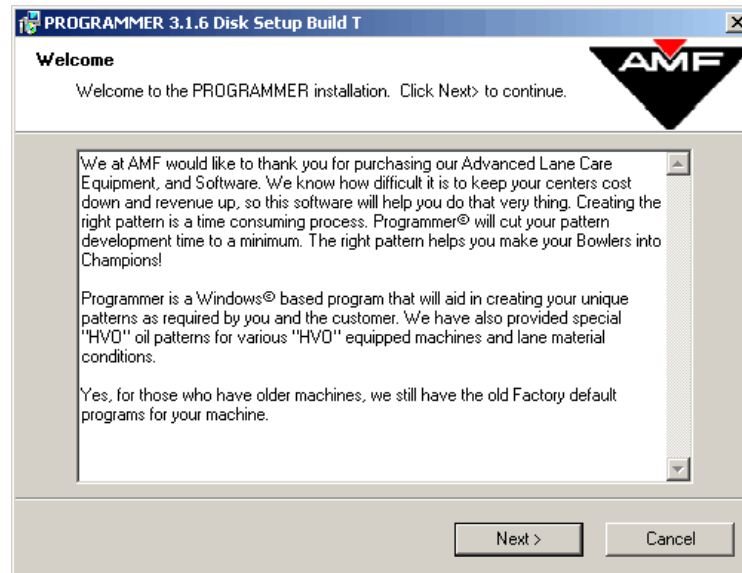

Figure 1-2
4. The welcome screen in **Figure 1-2** displays basic greeting information. Click on the **<Next>** button.